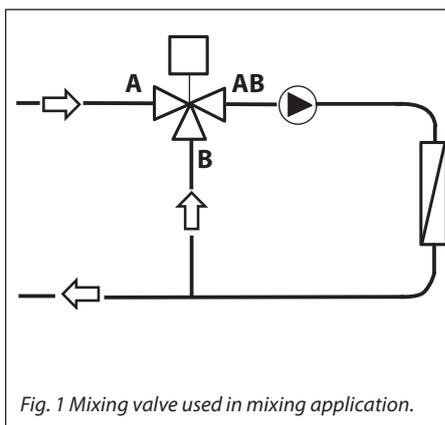

Fig. 1 Mixing valve used in mixing application.
**Application principles for 3-way mixing valves (Fig.1 and 2)**